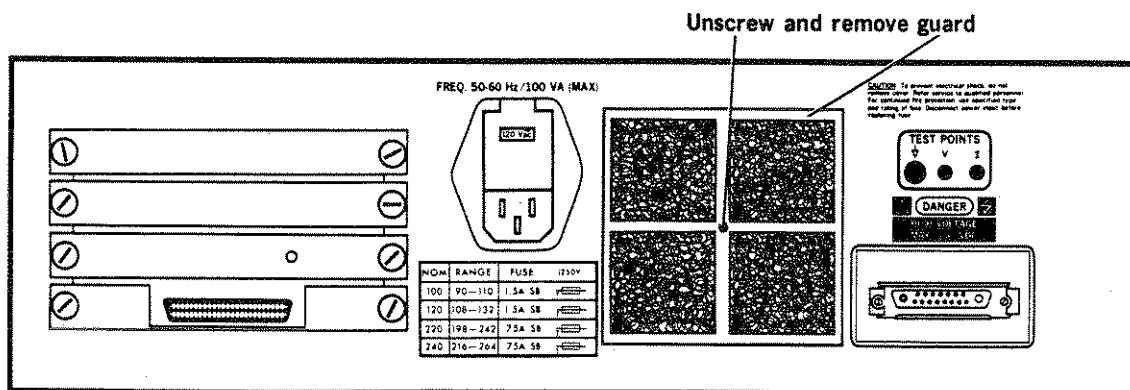

Figure 5-21. Removing the Fan Filter Guard
- STEP 2. Remove the fan filter guard by unscrewing the screw that secures it. Refer to Figure 5-21.